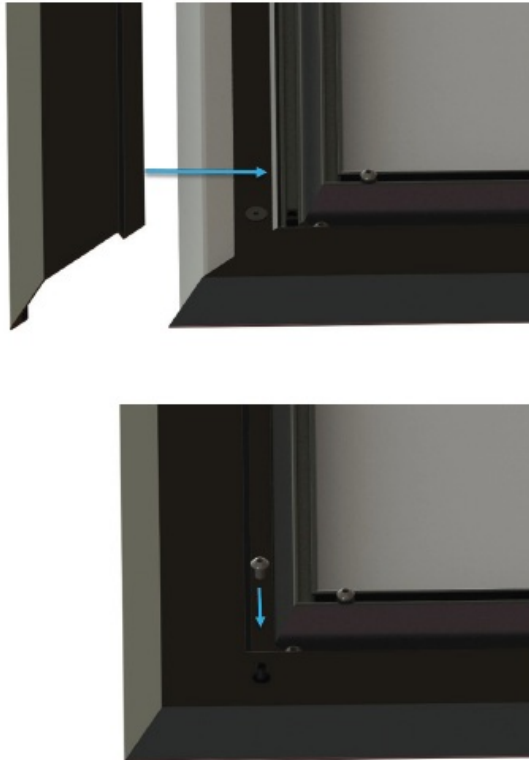

Figure 10: Border trim installed onto frame
5. Secure the trim in place using screws previously removed during Step 1 (see Figure 10).